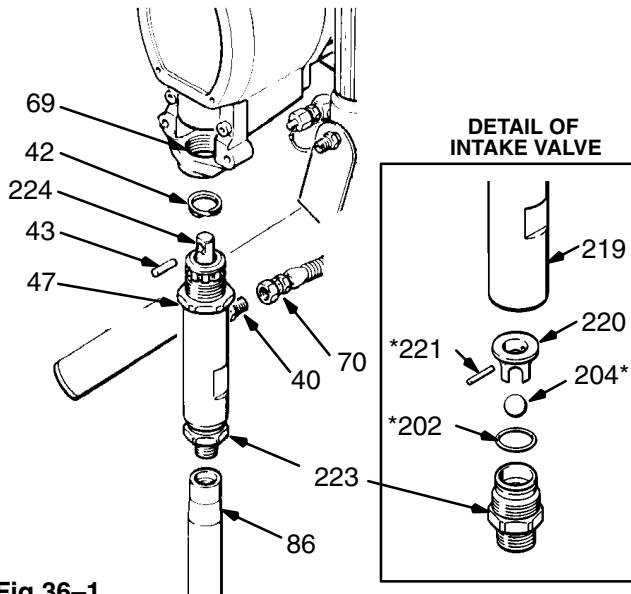

Fig 36-1
1. Unscrew the intake valve (223) from the cylinder (219). Remove the o-ring (202), ball guide (220), stop pin (221) and ball (204) from the valve. Refer to Fig 36-1.